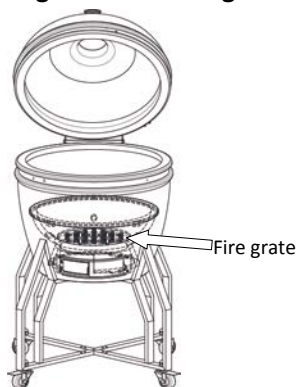

Figure 3
STEP 5 Place the round, black steel fire grate in the bottom of the firebox. The ash will fall through the holes in the fire grate and collect underneath the firebox. (See Figure 3)